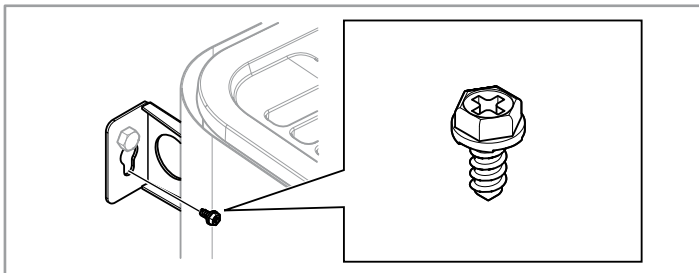

Figure 20: Lock screw for bracket
2. Lock the heater into place with the lock screw see Fig. 20.